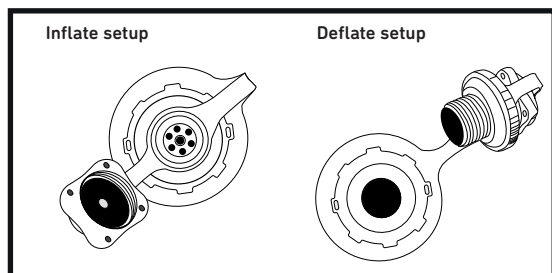

Fig. 1
3. Release the zipper at the back. Make sure the pump valve is in the INFLATE SETUP (Fig. 1).
1. Set up the pump valve in the DEFLATE SETUP (Fig. 1).